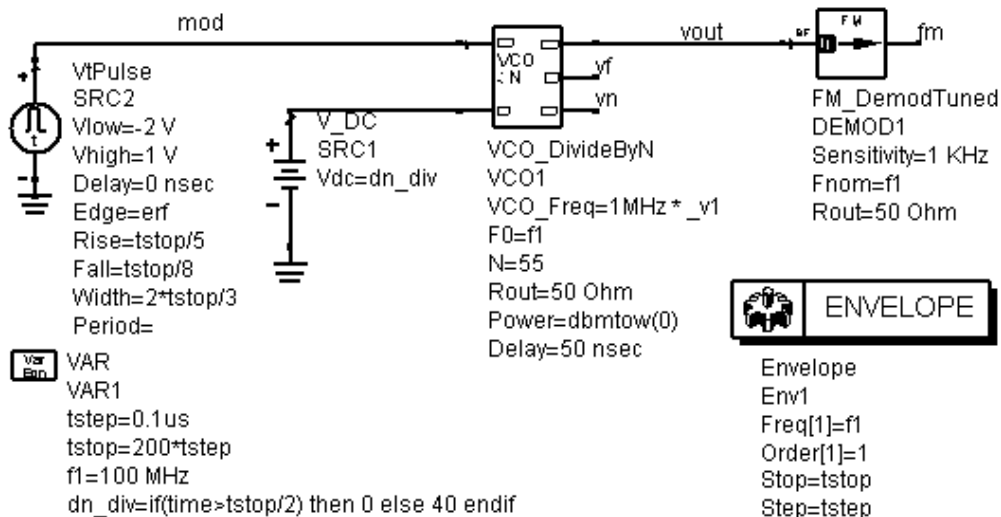

Figure 5-11. Example with Linear Tuning Characteristics
8. Figure 5-11 shows an example application; simulation results are shown in Figure 5-12. The tuning characteristic is linear in this case and is simply 1 MHz per volt. The nominally divided output frequency is $100\text{MHz}/55=1.81818$ MHz, so this output can be a baseband output, given the 0.1 μsec timestep. The divide number changes from 95 to 55 halfway through the simulation. (Note that while the divided VCO output may not appear to be a regular, uniform, amplitude sawtooth waveform, it does accurately represent the divided signal's phase.)